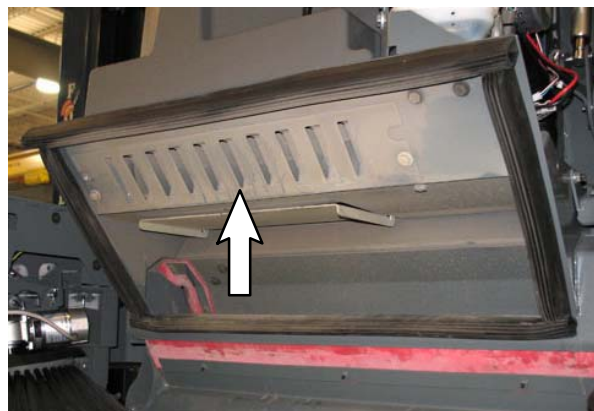

FIG. 1
4. Remove the perma-filter panel from the hopper weldment. Set the perma-filter panel and all mounting hardware aside. (Fig. 1)